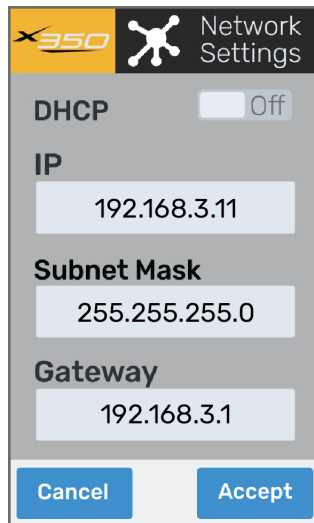

Figure 32 - X350 Network Settings
1. On the touchscreen, tap the **Network Settings** button (Figure 32).
The network settings appear (Figure 32).